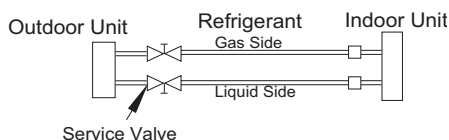

Fig. 24 — Service Valves
1. Completely tighten the flare nuts of the liquid and gas pipes on the indoor and outdoor side (for all fan coils) (see Fig 24).